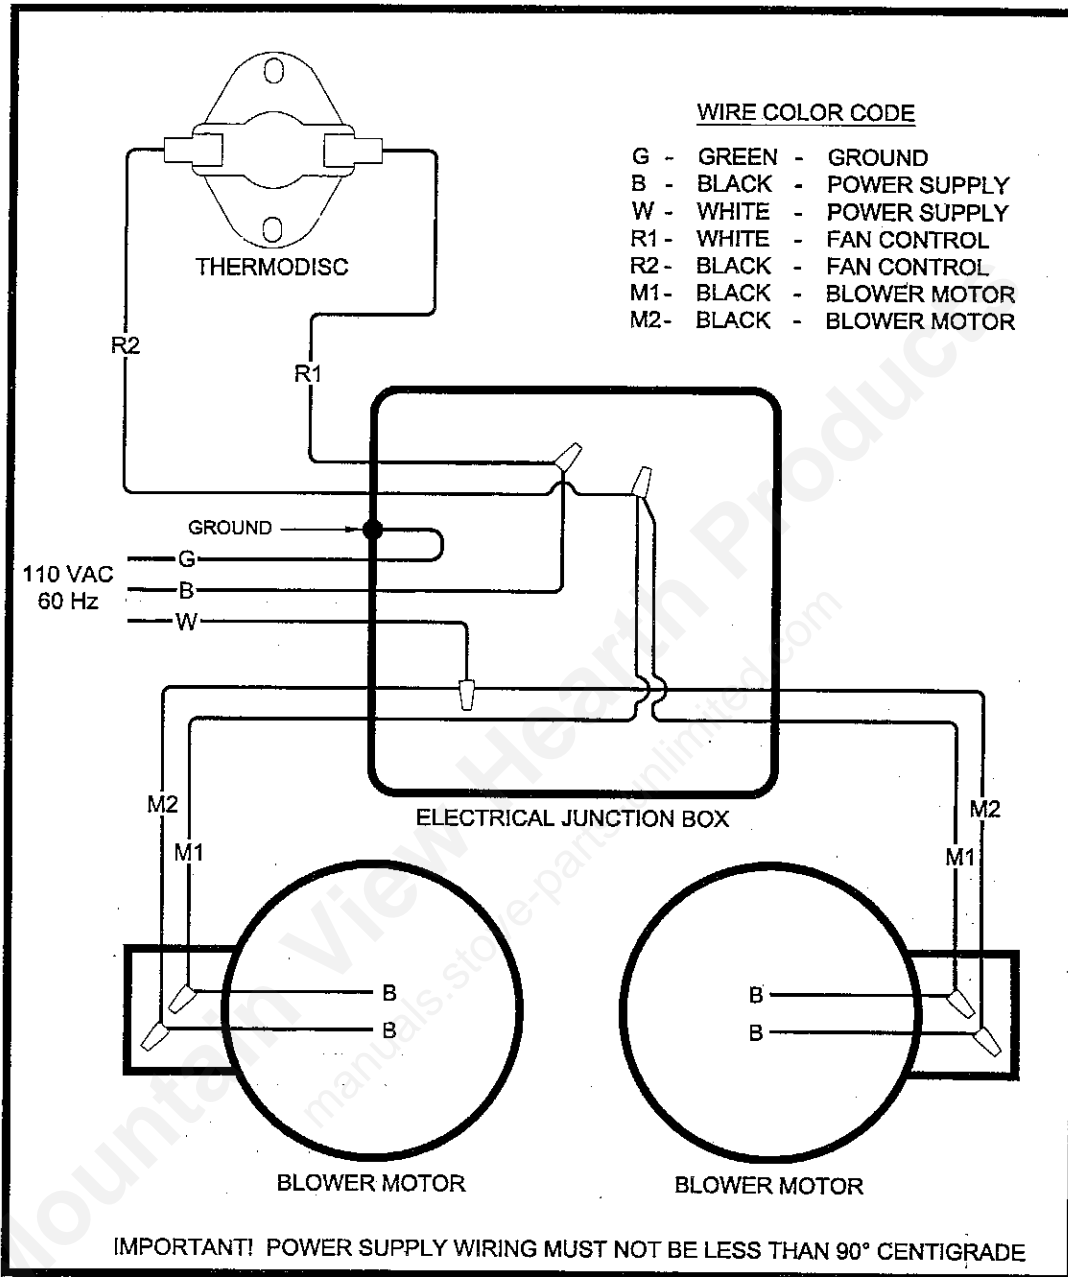

FIGURE 11
6. Wire right side blower first (See wiring diagram, Fig. 11) and replace cover on junction box on blower.
f) Connect electrical supply in the electrical junction box that is mounted on the back of the Furnace. See Wiring Diagram (Fig. 11). Remove the cover from electrical junction box and connect power supply wires to wires designated, using wire nuts. The power cord supplied may be used for installation, if permitted by local codes and regulations. If the power cord supplied cannot be used, the power supply wiring must be 90 degrees centigrade in a metal cable and should be completed by a qualified installer complying with NFPA Standard No. 70 and local codes.
The electrical supply for operation of this fan control switch is to be obtained from the same electrical supply as the central hot air heating system. Follow the instructions of the wiring diagram (Fig. 11). Do not make connections across the thermodisc in the furnace.